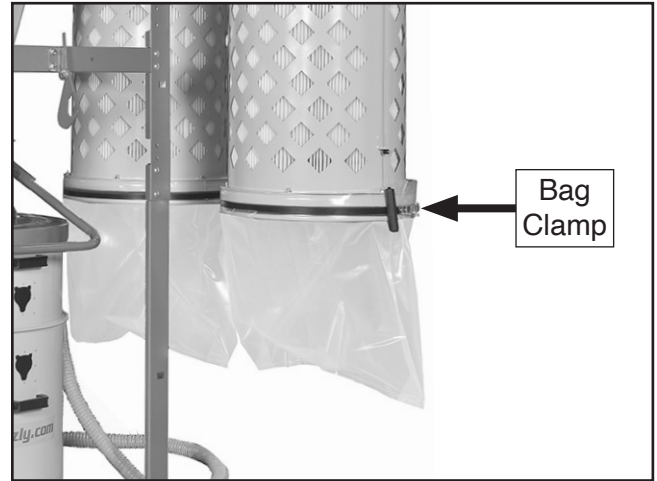

Figure 38. Canister filter collection bag installed.
40. Fit plastic collection bags over bottom of filters and clamp in place with metal bag clamps, as shown in **Figure 38**.